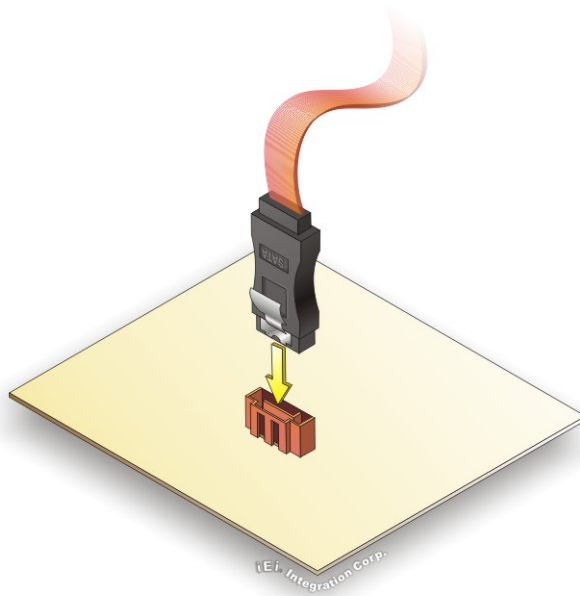

Figure 4-21: SATA Drive Cable Connection
- Step 2:** **Insert the cable connector.** Insert the cable connector into the on-board SATA drive connector until it clips into place. See **Figure 4-21**.